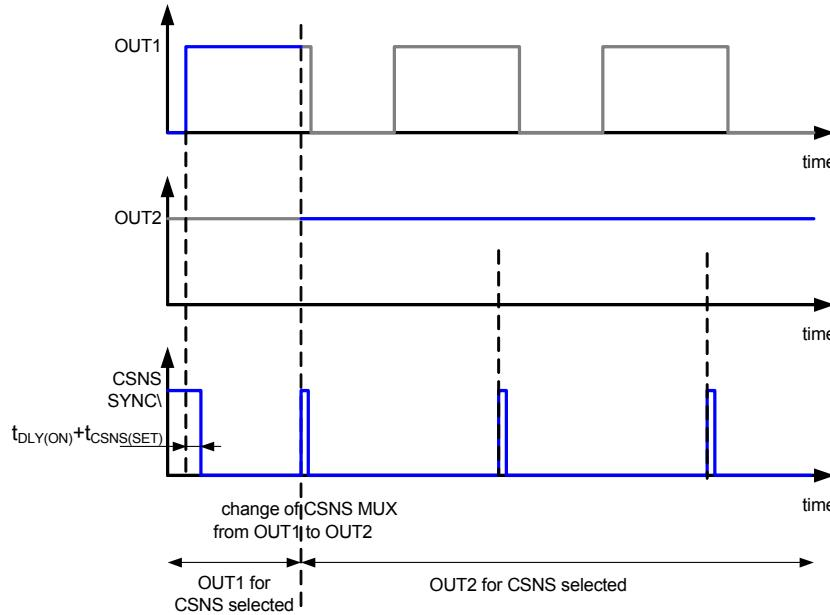

Figure 34. CSNS SYNCB when the output is programmed with 100 %
- when the output is programmed with 100 % PWM, the CSNS SYNCB delivers a logic[0] high pulse with the length of 100 μ s (typ.) during the PWM counter overflow for TRIG0 and TRIG1/2 settings, as shown in Figure 34